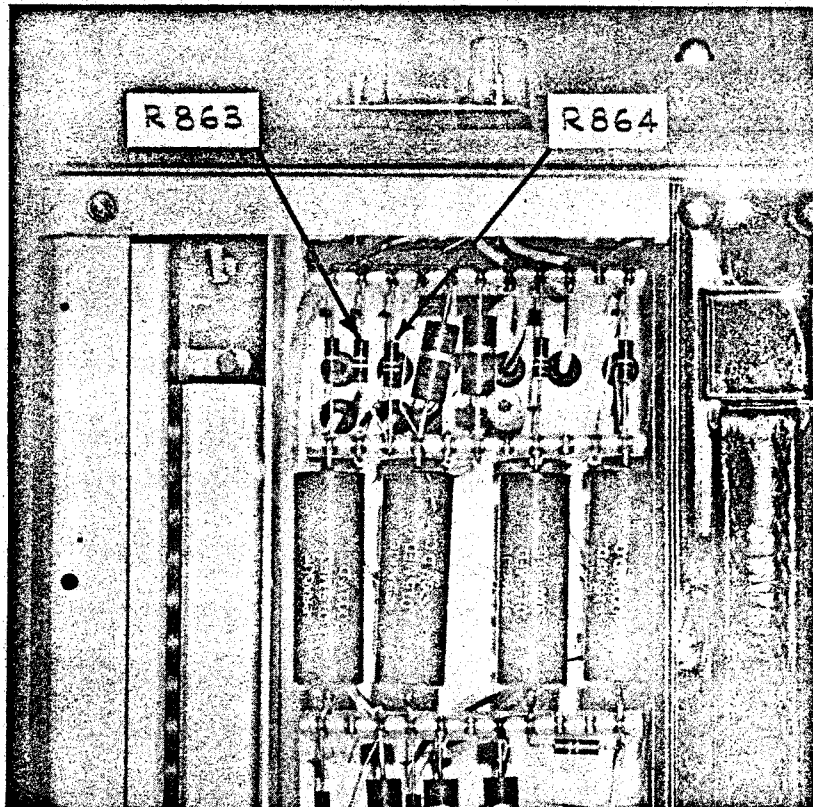

Fig. 12. Locations of R863 and R864, shown with focus-and-intensity shield removed.
2. If the vertical-deflection factor does not fall between 6.25 and 6.75 volts per centimeter, it will be necessary to adjust the vertical-shield voltage on the cathode-ray tube so that it does. Refer to Fig. 12 for the location of resistors R863 and R864. By increasing the resistance of R863 or by decreasing the resistance of R864, you can reduce the vertical-shield voltage and thus